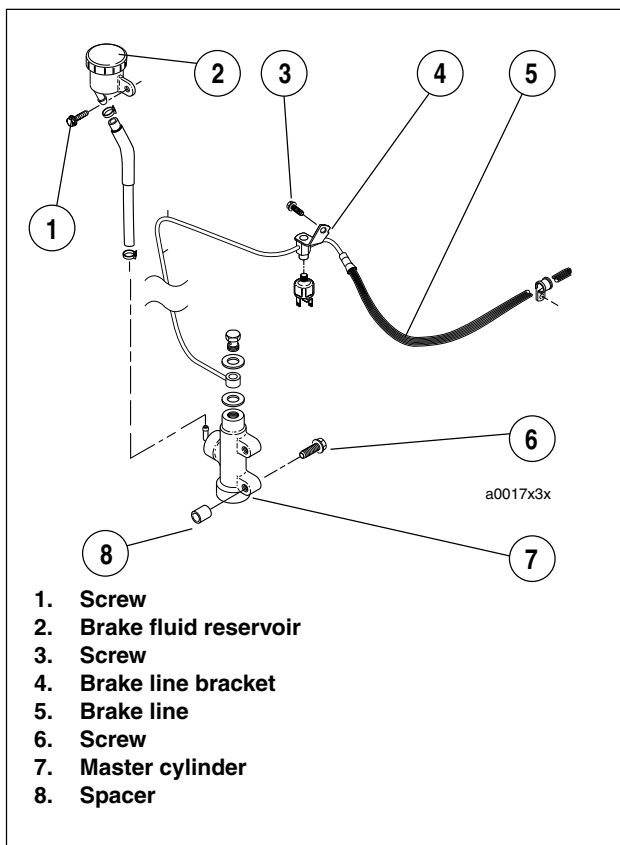

Figure 3-9. Brake Line Assembly
See Figure 3-9. Remove rear master cylinder before removing sprocket cover.
19. See Figure 3-9. Disconnect screws at brake fluid reservoir, master cylinder and brake line bracket (items 1, 3 and 6).